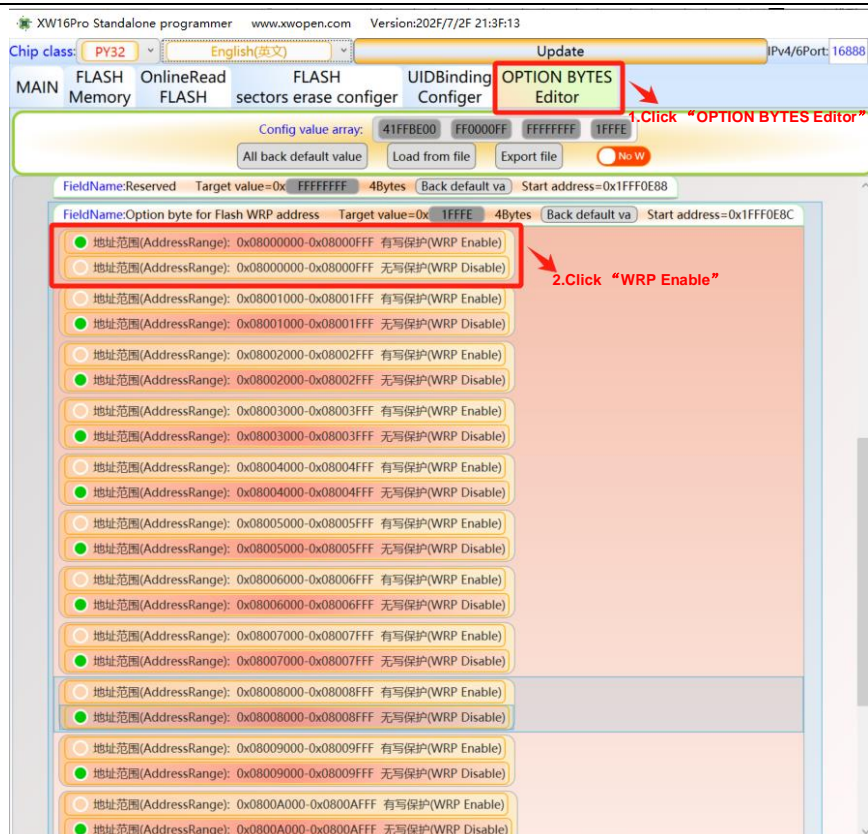
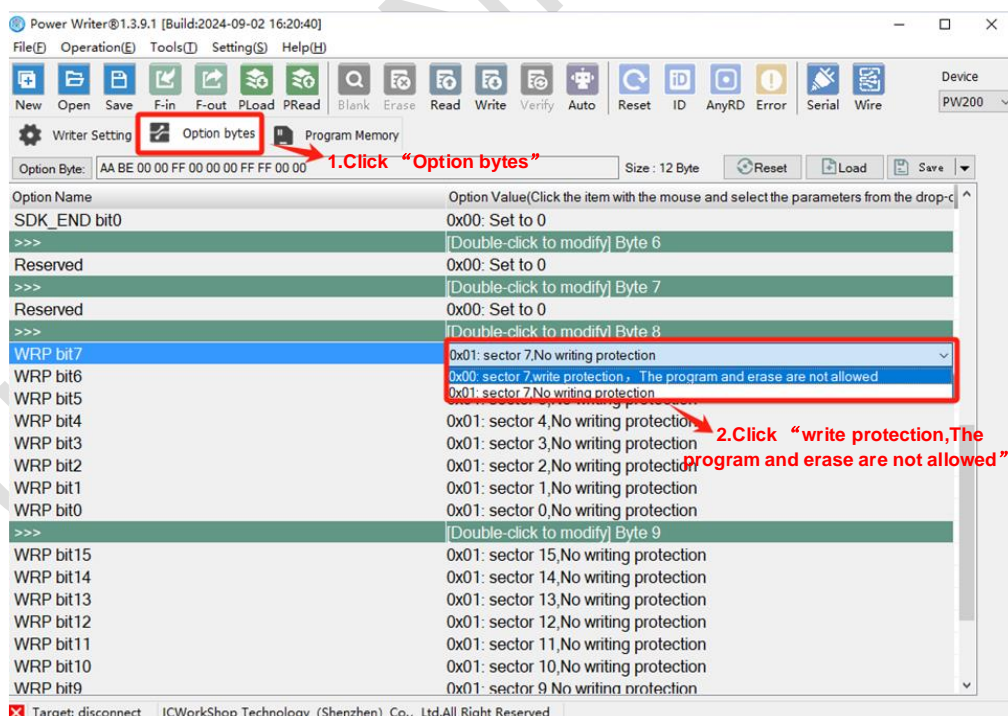

Figure 10-1 XW Operation Write Protection
Figure 10-2 Power Write Operation Write Protection
- It is recommended that the customer program enables write protection, which is set in Option, as shown in Figure 10-1 and Figure 10-2.